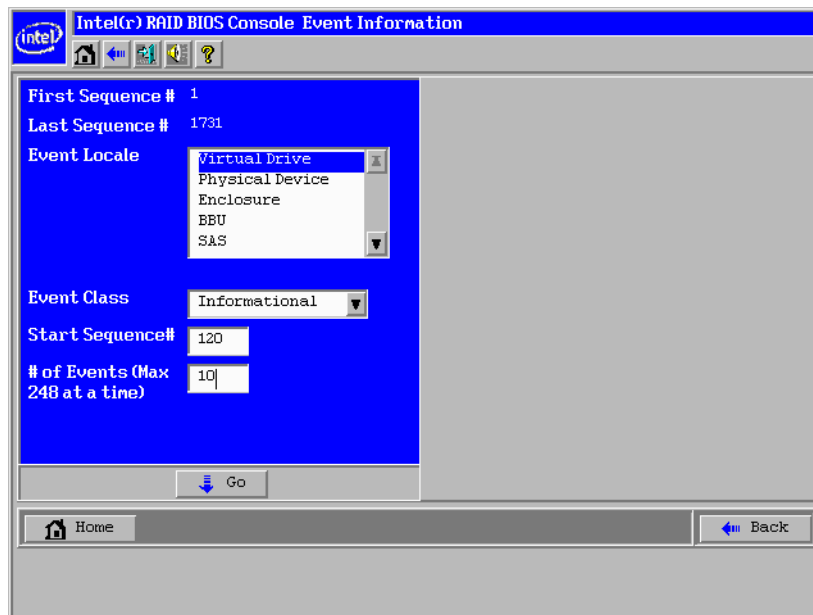

Figure 31. Intel® RAID BIOS Console 2 – selecting events to view
2. Select the component to display from the Event Locale list and the type of event to display from the Event Class drop-down. Enter the start sequence number and the number of events to display. Figure 31 shows a selection for informational events on the virtual drive, starting at sequence number 120 and displaying 10 events.